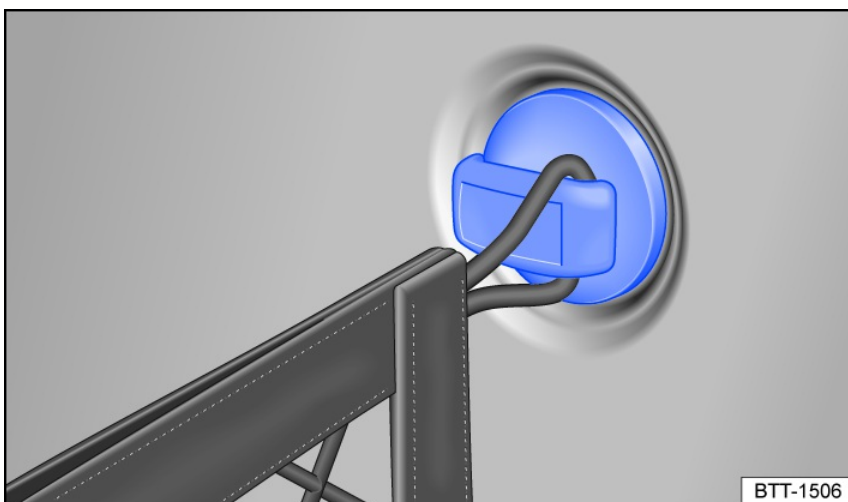

Fig. 162 In the luggage compartment: Luggage net hooks.
2. Secure the loops on the luggage net to the side hooks fig. 162, → ⚠.